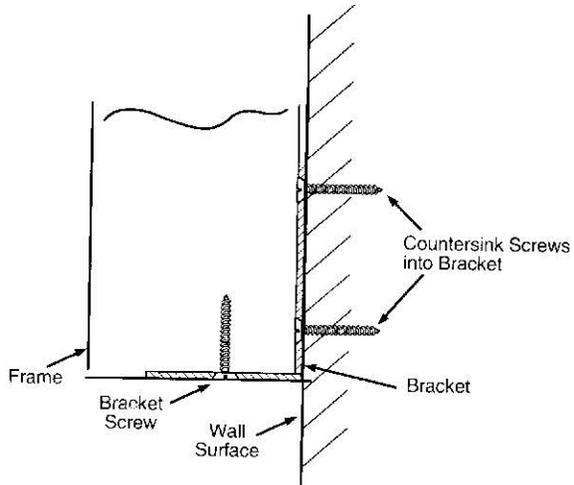

Figure 5
**Angle Brackets** (see Figure 5) and **Security Straps** (see Figure 6) can be used to secure pictures hanging from picture wire. They can be used to make pictures hung from conventional hooks slightly harder to remove and can be used as additional security when hanging pictures from any of the security hangers previously described. Brackets and straps afford equal protection, but the brackets usually are less visible to viewers.